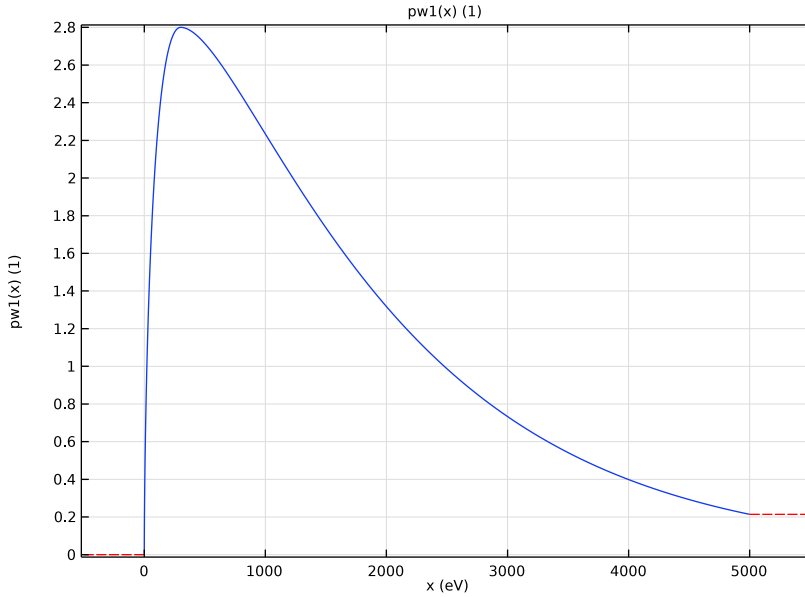

Figure 1: Secondary electron yield (SEY) as a function of incident electron kinetic energy.
When an electron hits the wall at either end of the microwave cavity, the incident electron is removed from the simulation using a **Wall** node with the **Disappear** wall condition. Depending on the kinetic energy of the incident particle, it may release one or more secondary particles into the domain using the **Secondary Emission** subnode. The relationship between the kinetic energy of the incident particle and the number of emitted secondary electrons to release is called the secondary electron yield or SEY, an energy-dependent expression also from Ref. 1 and plotted in Figure 1,
- 6 Click  **Plot**. Compare the resulting plot to Figure 1. This function will be used to define the secondary electron yield (SEY) as a function of the kinetic energy of the incident particle.